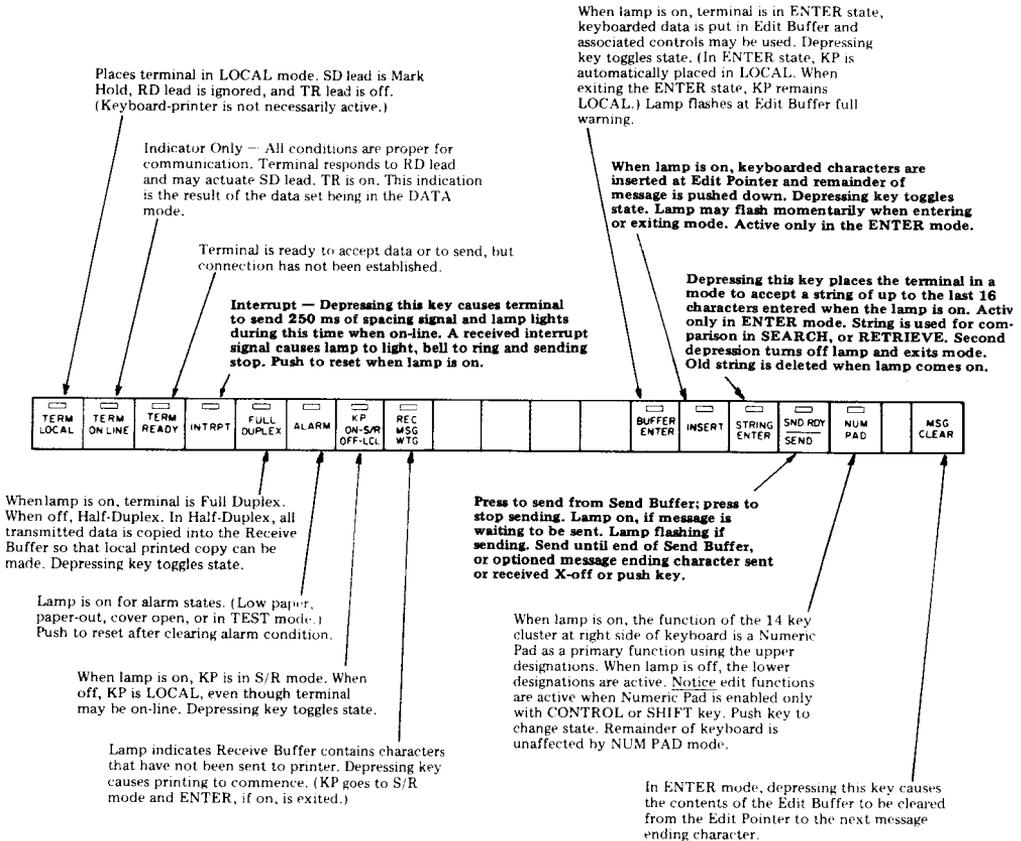

Fig. 3—Operational Controls and Status Indicators
2.10 The operational controls and status indicators for the Teleprinter are briefly described in Fig. 3.